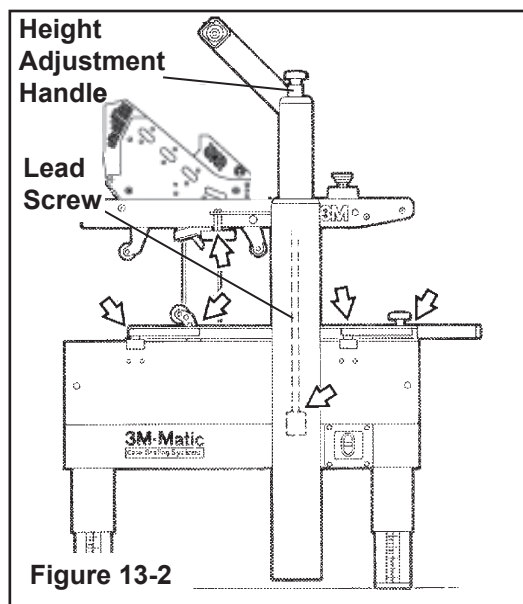

Figure 13-2
Figures illustrate the frame points which should be lubricated every 250 hours of operation. Lubricate the rotating and pivoting points noted by the arrows with Silicone. At the same time, a small amount of Silicone should be applied to the end of each spring where the loop is secured to an eyelet (**Figure 13-2**).
- Synthetic Silicone Spray may be used on Lead Screw (**Figure 13-2**).